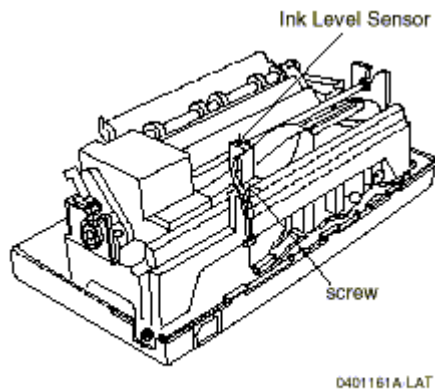

Figure 1.
3. Disconnect the ribbon cable from the Ink Level Sensor Board (Figure 1).